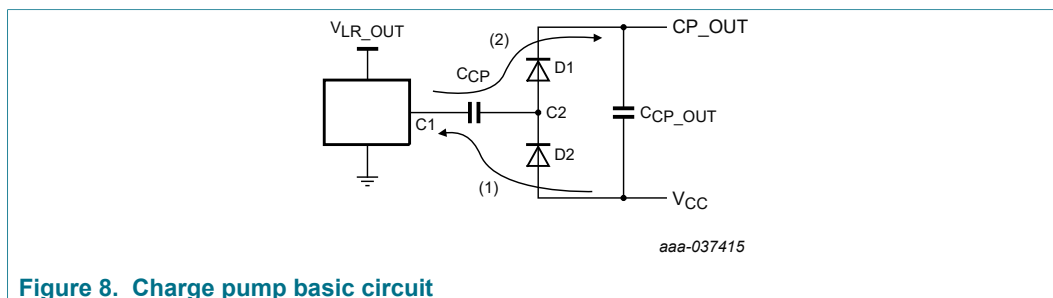

Figure 8. Charge pump basic circuit
The charge pump generates the high-side driver supply voltage (CP_OUT), buffered at CCP_OUT. Figure 8 shows the charge pump basic circuit without load.
When the oscillator is in low state (1) in [Figure 8], C_{CP} is charged through D2 until its voltage reaches $V_{CC} - V_{D2}$. When the oscillator is in high state (2), C_{CP} is discharged through D1 in C_{CP_OUT} , and final voltage of the charge pump, V_{CP_OUT} , is $V_{CC} + V_{LR_OUT} - 2V_D$. The frequency of the 33883 oscillator is about 330 kHz.